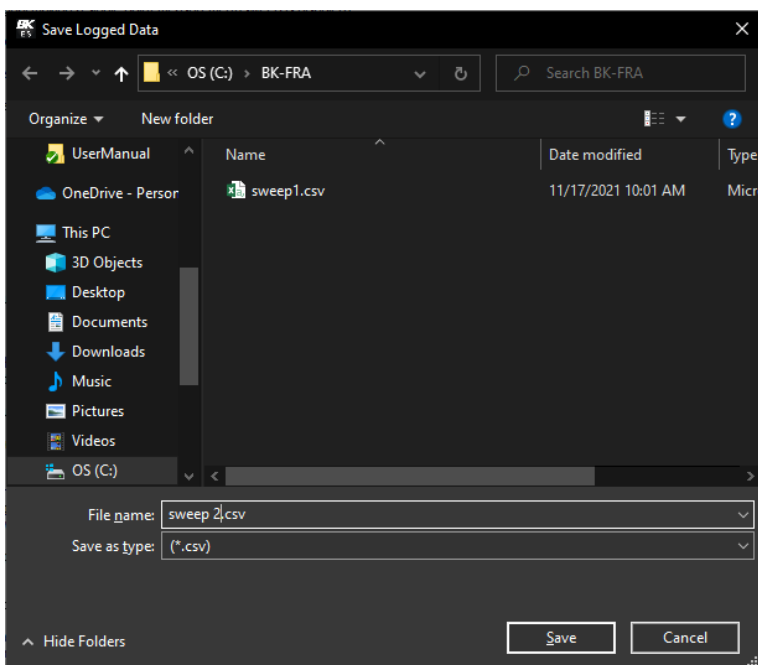

Figure 6.2 Save Log
- The default location is the BK-FRA folder created during installation. See Figure 6.2